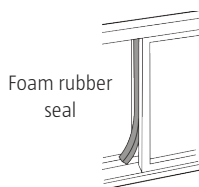

Fig. 15
6. Cut the foam rubber seal to a suitable length and seal the gap between the window halves (fig. 15).